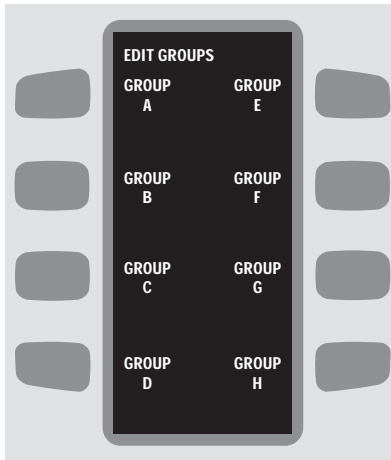

FIGURE 22: Group Select Screen (Edit Mode)
5. Select the group that contains the food item you wish to edit by pressing the adjacent soft key (Figure 22).